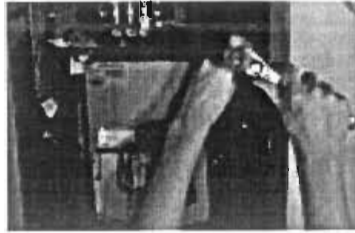

Figure 25: Remove Picture Frame Screws
5. Remove the outside hex-slot picture frame screws that secure the power converter to the enclosure back pan. Refer to Figures 14–17 starting on page 44 for screw locations. Refer to Table 35 for the number of screws on your controller. Keep the screws for the new power converter. See Figure 25.
3. Secure the power converter picture frame to the enclosure back pan with the picture frame screws from the removed power converter. Torque the screws to 15 ± 2 lb-in. (1.7 ± 0.2 N·m) See Figure 25 on page 80.